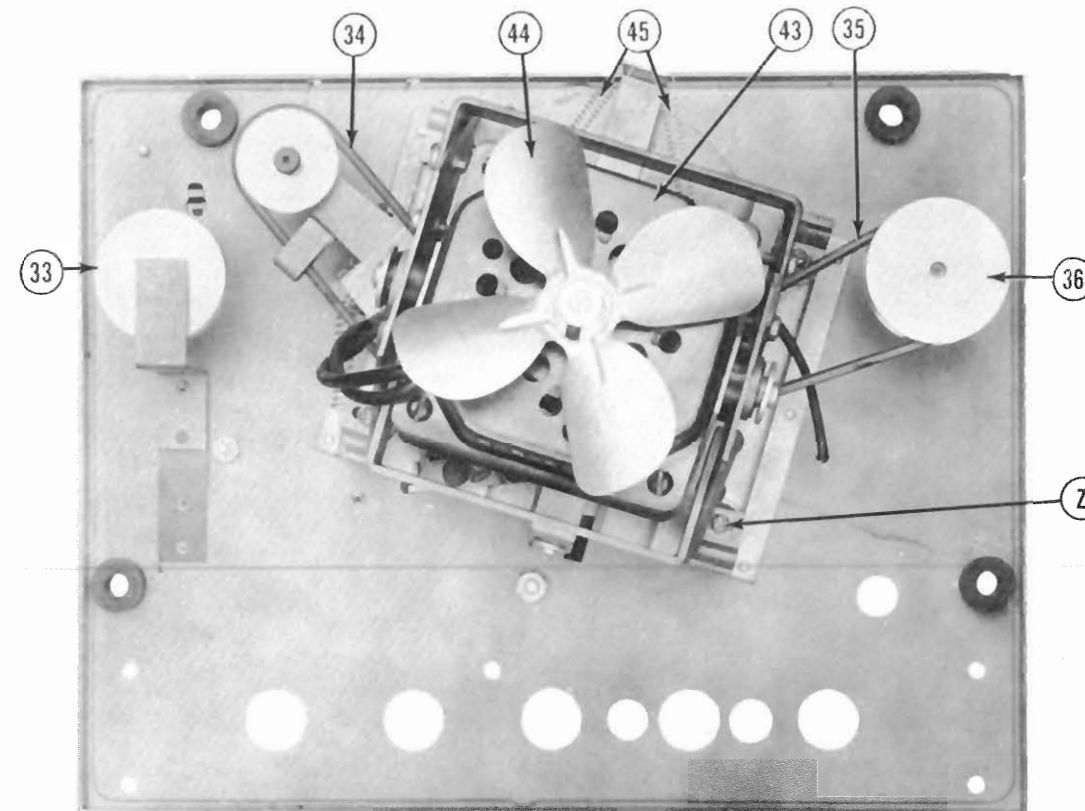

Figure 4
To correct any misalignment of above, loosen the four mounting screws (Z), see Figure 4, and with all springs attached and mechanism in "Fast-Forward" position, make adjustments by shifting the motor bracket in the slotted mounting holes. After the proper adjustment is made, tighten the four screws.